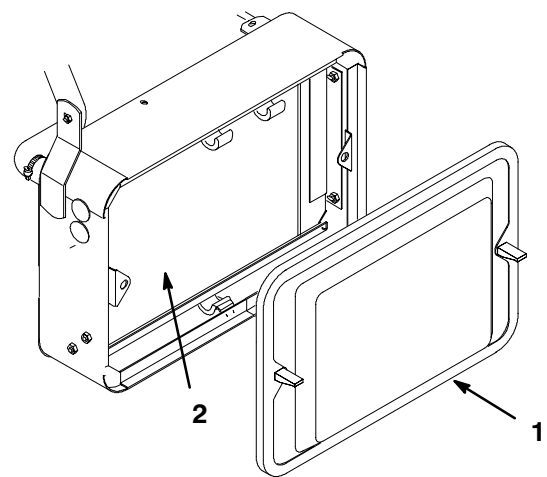

Figure 35
1. Remove the radiator screen (Fig. 35).